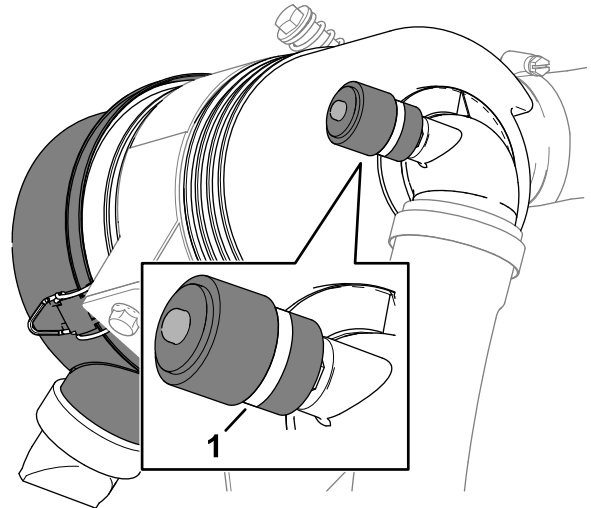

Figure 80
3. Check the service indicator at the end of the air filter housing (Figure 80).